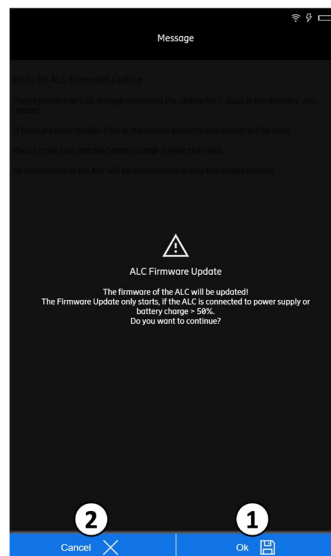

Fig. 30: Firmware update: warning message
3. Tap OK (① in Fig. 30) to continue with the firmware update.
4. Tap Cancel (② in Fig. 30) to cancel the update.